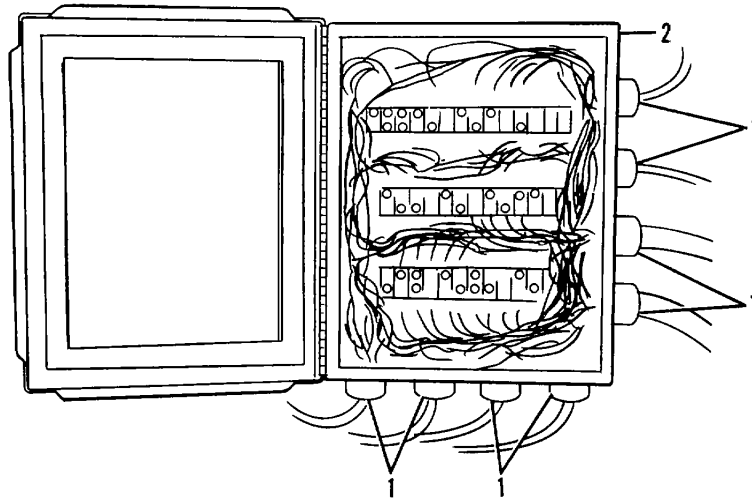

Figure 4-32. Junction Box.
Loosen strain relief covers (1, Figure 4-32) and pull tagged cables far enough to install tags on individual wires for ease of installation.
(7) Cut terminals from all disconnected wires.
(8) Carefully pull from junction box (2, Figure 4-32) and tag each cable for ease of installation.